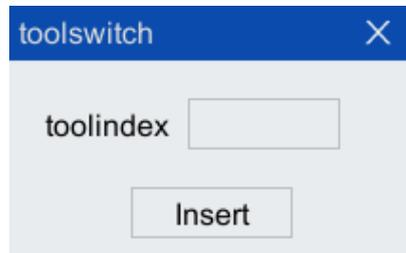

Figure 5-44 "Toolswitch" instruction configuration interface
Step1. Click "Insert Cmd> auxiliary instruction> Tool Offset> toolswitch" option in the toolbar of the program editor to pop up "toolswitch" instruction interface, as shown in Figure 5-44.